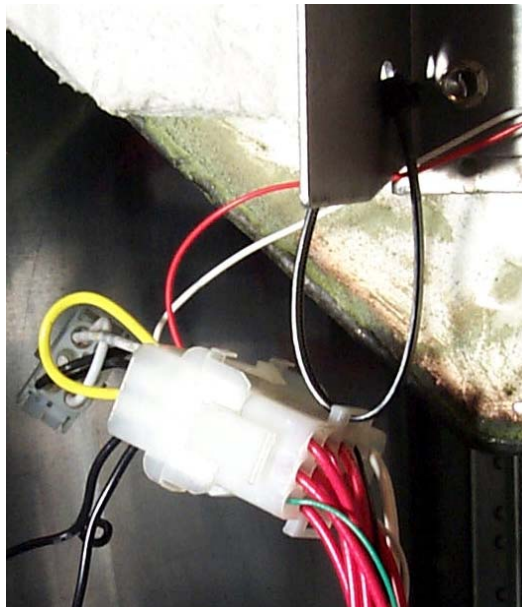
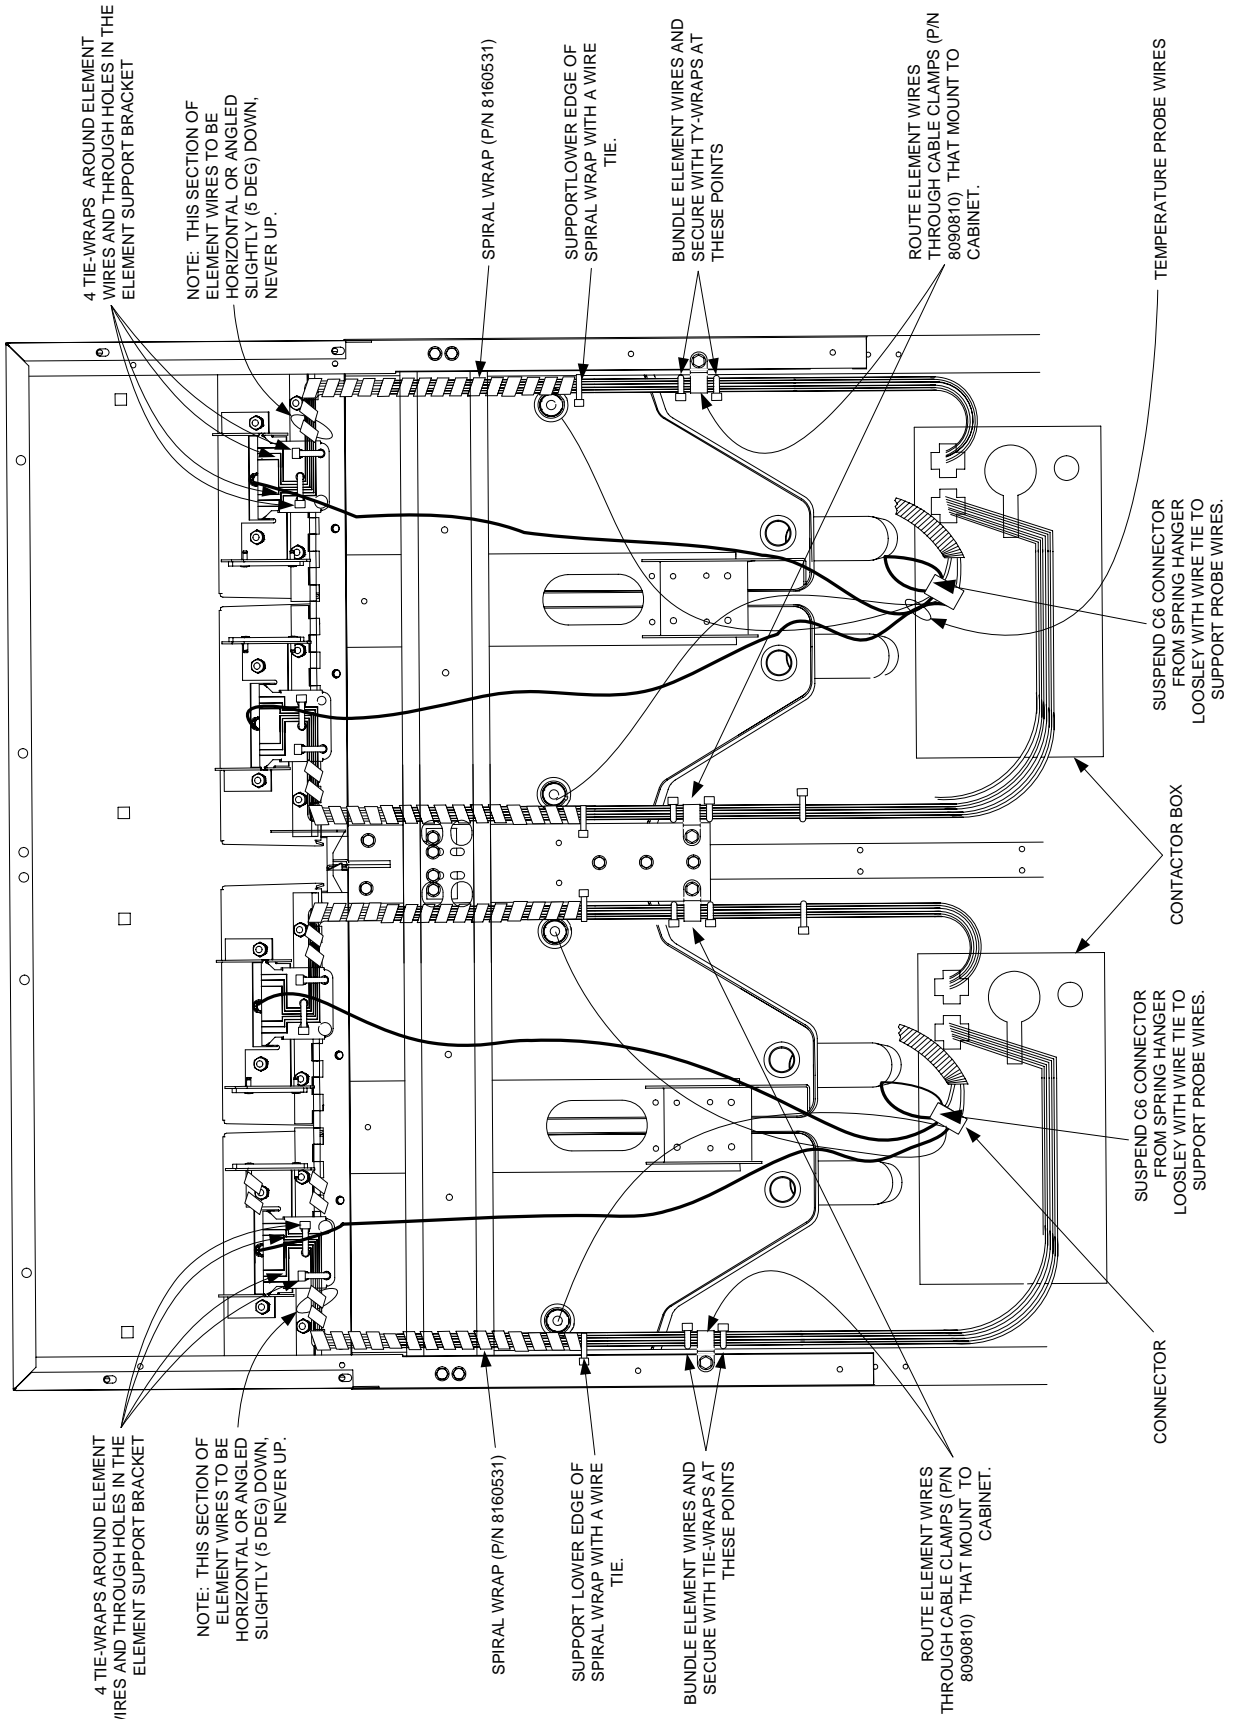

Figure 11: Suspend C6 connectors from spring hanger with a wire tie.
Fig. 12
13. Route the lower portion of the element wires out of the way of the back panel. Use wire ties to secure as required. See Fig. 12. Suspend the C6 connector from the spring hanger with a wire tie. See Fig. 11. Ensure the probe wires are not tight and do not rub against sharp edges. Also, ensure they are clear of the element springs.